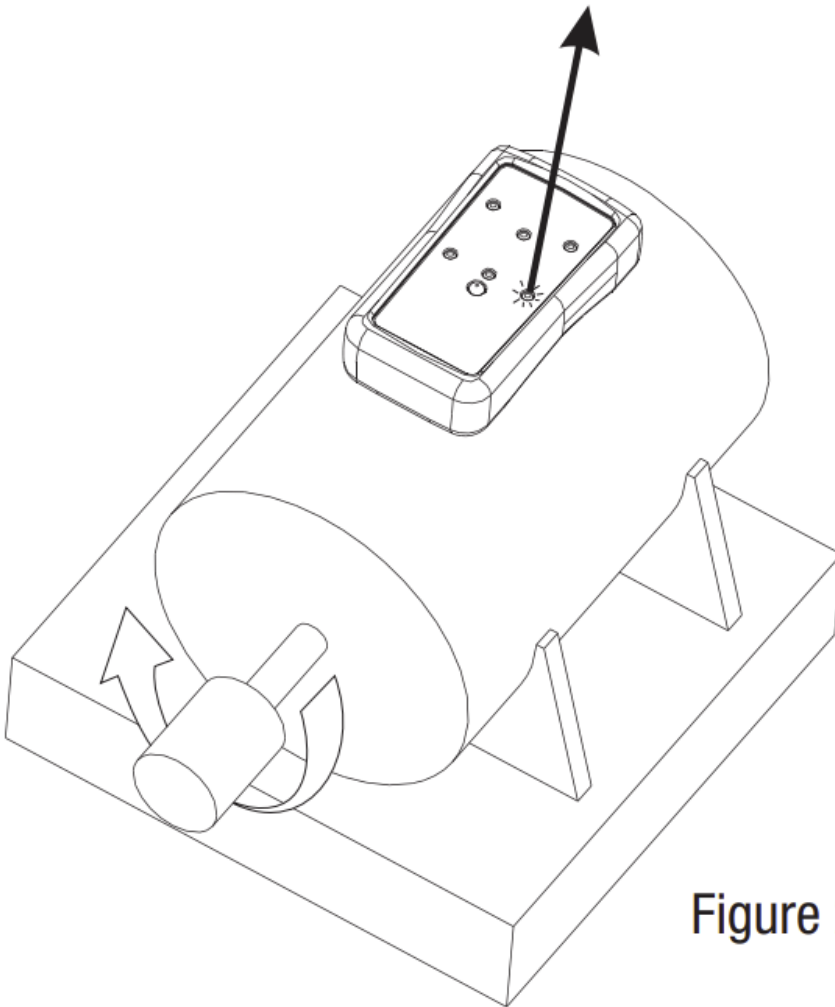

Figure 2
- Place the 5124 towards the motor, in parallel with motor shaft. The bottom of the instrument should face the shaft. The 5124 should be oriented such that it is opposite the front of the motor as shown in Figure 2. The motor location indicator is also shown on Figure 1.
- Press the “ON” button and the power indicator will illuminate and the test will begin. While the motor is running, the “Clockwise” (R) or “Counter clockwise” (L) will illuminate indicating the direction of rotation of the motor.